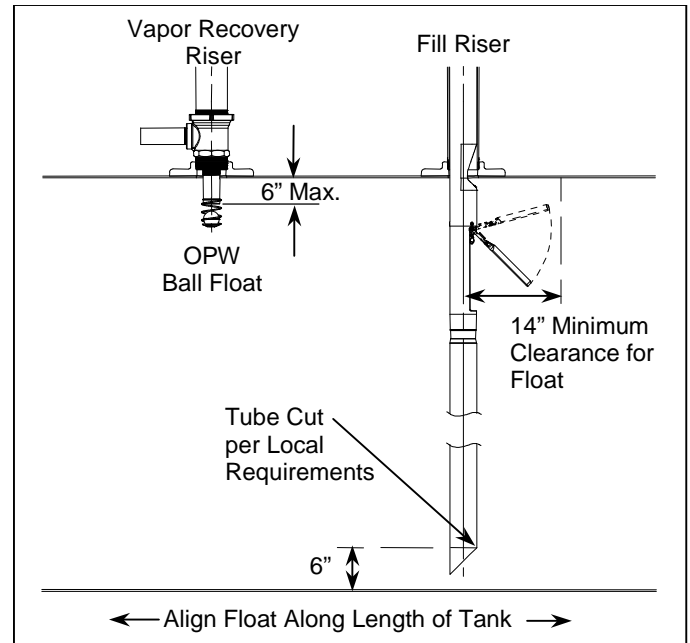

Figure 24
Measuring from the underside of the inlet tube flange, mark the overall length of the drop tube a distance of (B) minus 6". Determine dimension (B) from the measurements taken in Step 1, Figure 1 (Top of the Face Seal Adapter below the drain valve outlet in the spill container to the bottom of the tank). Saw off the excess tube at a 45-degree angle or per local codes or requirements and file off any sharp burrs (Refer to Figure 24). Optional: Install the OPW Tank Bottom Protector on the lower tube (Refer to Installation instructions supplied with the Tank Bottom Protector).
CAUTION: No obstruction in the tank can be within 14" from the center of the riser pipe or the valve may not operate properly (See Figure 24).